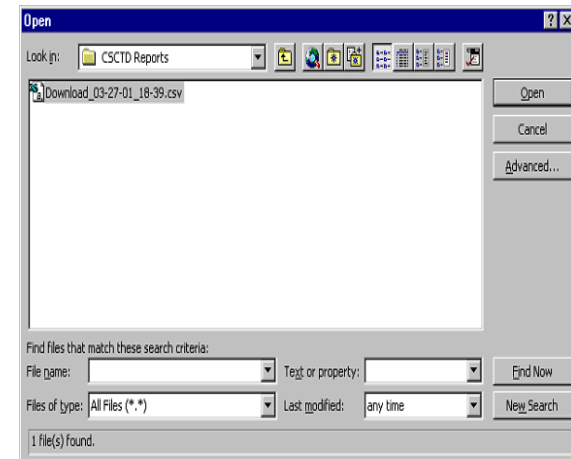

Figure 8
- 11.4.8 Go to the folder C:\CSCTD Reports and change 'Files of Type' to All Files(*.*). Find the .CSV file saved by the CSCTD Reports Download by date and time (See Figure 8) and click OK. Data from the .CSV file will be appended to any existing data in the report.